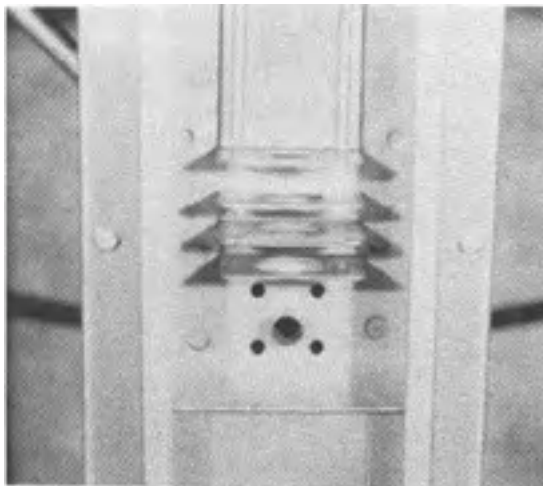

FIG. 35
Each new vent block kit contains replacement screws and a vent block nut plate. Servicer must use own discretion whether nut plate must be replaced. If nut plate must be replaced, remove the four (4) screws securing vent assembly to rear of fryer and save for reuse. Remove vent assembly being careful not to apply tension to vent solenoid wires. Remove defective nut plate and discard. Place new nut plate on vent tube. Place vent assembly back onto rear of fryer making sure vent tube protrudes through vent assembly at least 1/2" (See Figure 35). Replace the four (4) screws securing vent assembly to rear of fryer. If nut plate does not need replacing, proceed to Step 7.